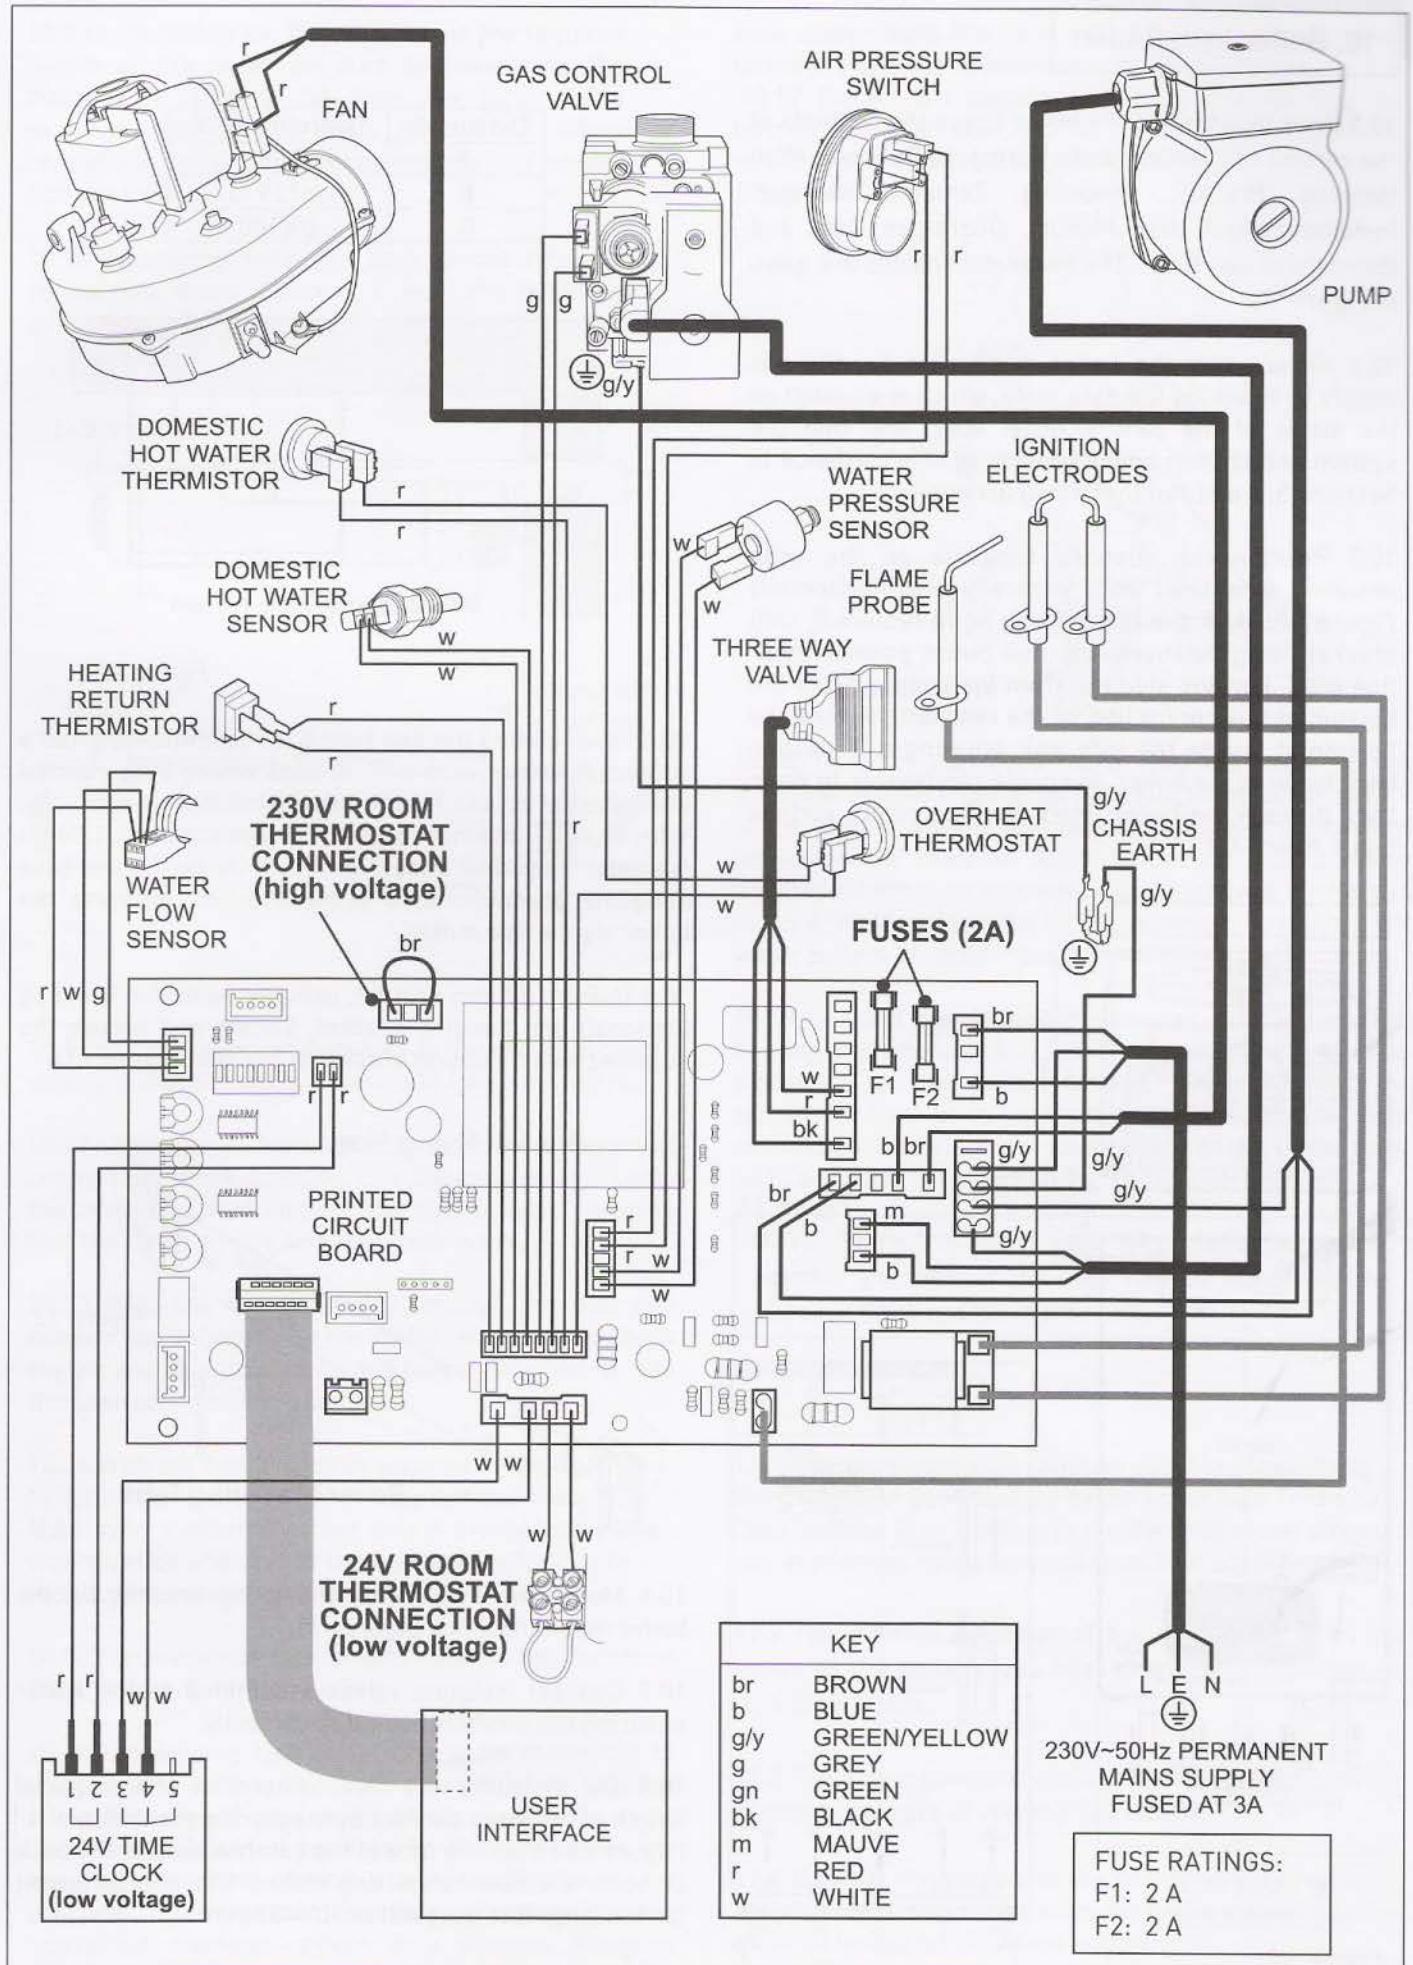

Figure 9
9.8 On connecting the mains electrical supply to the boiler, it is essential to ensure that electrical safety checks for earth continuity, earth resistance, polarity and short circuit are carried out prior to making the final connection. A diagram of the boiler's electrical circuit is given as figure 9.